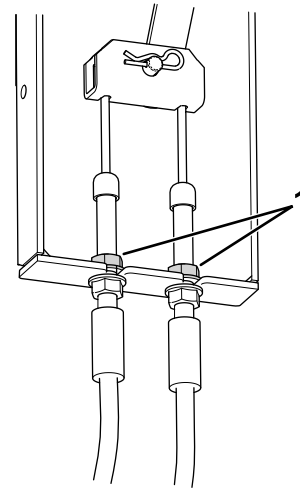

Figure 74
3. Locate the brake-cable mount (Figure 74) under the left side of the machine near the left wheel.